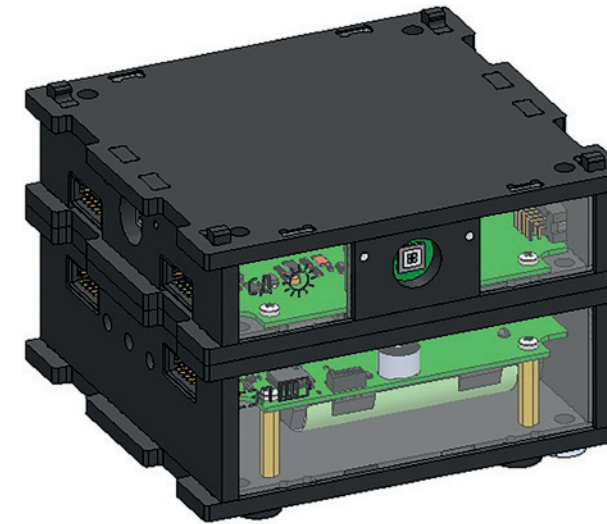

Fig. 100: Mounting the next module
2) Place the next module on top, having aligned four protrusions of the lower module with four holes on the upper module (Fig. 100):